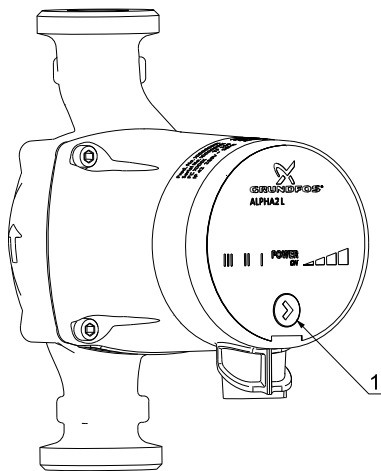

Fig. 12 Push-button position
The control panel is located on the front and is connected to the stator via a terminal plug. The control panel has a push-button (pos. 1) for selection of pump setting and seven light fields for indication of the selected pump setting. See fig. 12.